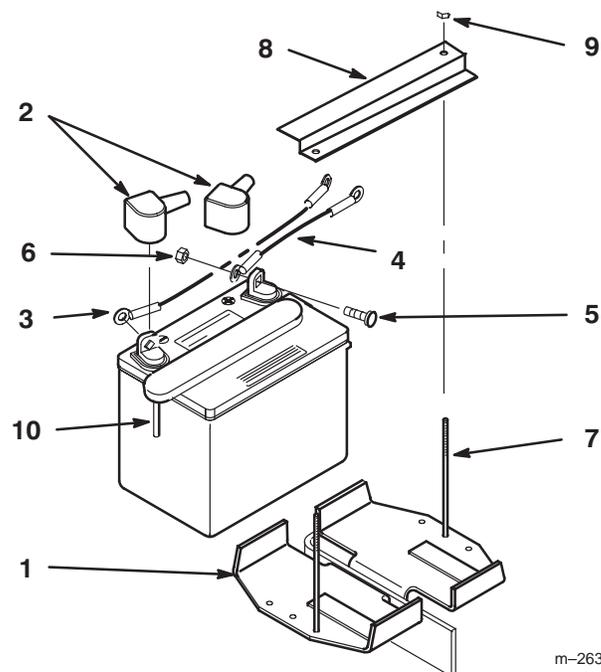

Figure 8
4. Position battery onto holder with terminal posts away from the engine (Fig. 8).
6. Install the positive (red) battery cable to positive (+) battery terminal and the negative battery cable to the negative (-) battery terminal. Secure cables with (2) 1/4 x 3/4" (19 mm) carriage bolts and 1/4" locknuts.
7. Mount battery to holder with (2) support rods, a battery clamp and (2) 1/4" locknuts. Position support rods in mounting holes (Fig. 8). Tighten locknuts so battery is held securely in position and will not slide. **DO NOT OVERTIGHTEN.**